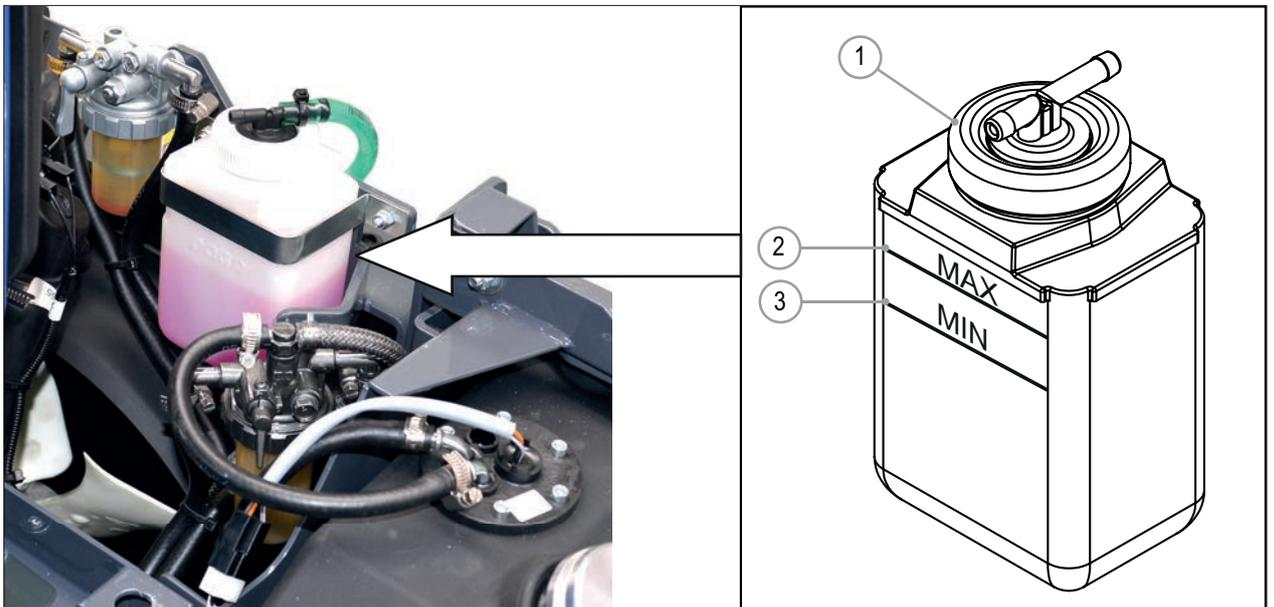

FIG. 54
- 4) The cold engine coolant level in the overflow tank (FIG. 54 - Ref. 1) should be between the two lines (FIG. 54 - Ref. 2 and Ref. 3).